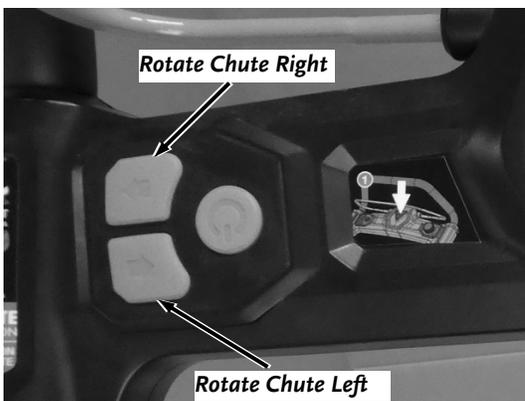

Figure 10
1. Start the Auger (**Figure 10**).
1. To rotate the Chute Assembly to the right, press the upper Button (**Figure 10**).